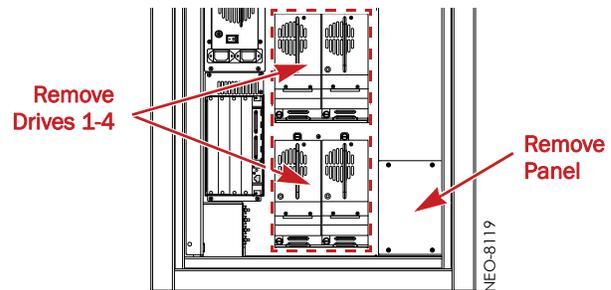

Figure 1. Accessing the Rotary SPI
4. Remove the **drives** (or drive covers) and dividers in drive bays 1–4 and set aside (Figure 1).